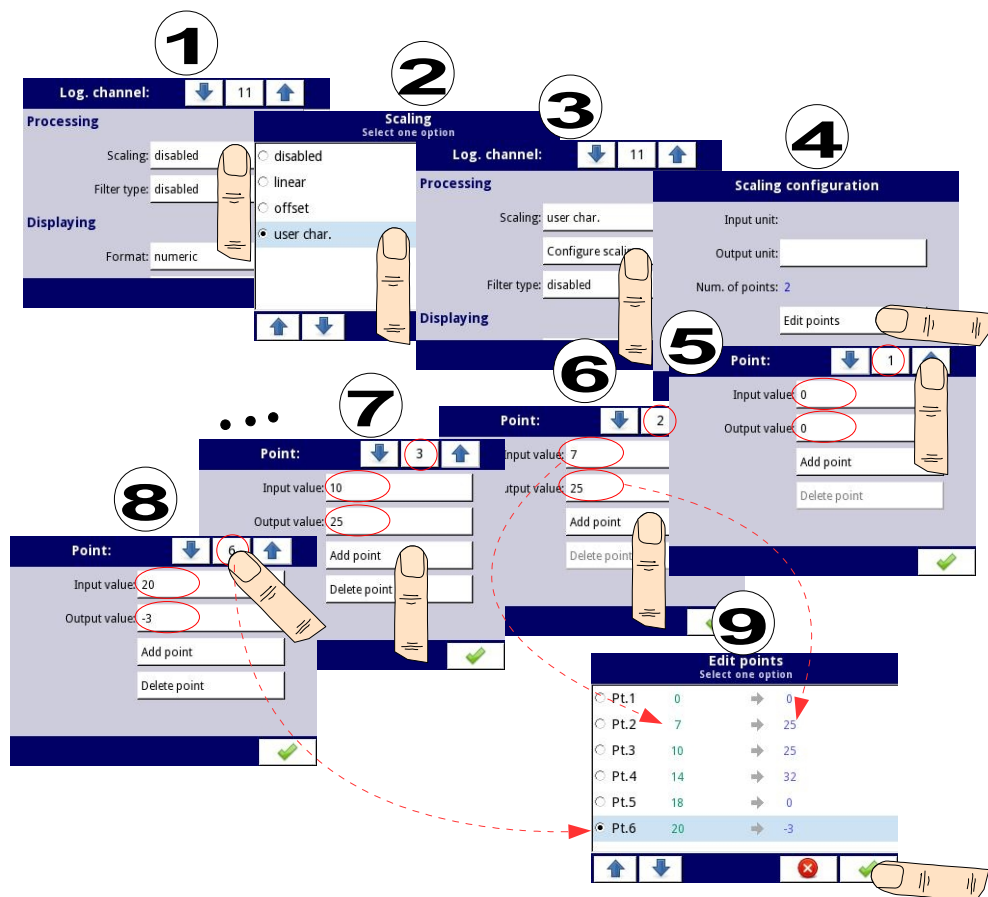

Fig. 7.32. Configuring the user characteristic
1. Press the button next to the **Scaling** label and select **user characteristic** option (point (1) and (2) in Fig. 7.32).
2. Press the **Configure scaling** button and enter the **Scaling configuration** menu (point (3) in Fig. 7.32).
4. Press the **Edit points** button (point (4) in Fig. 7.32) and go to **Edit points** menu.
For **Point 1** set input and output value (point (5) in Fig. 7.32).
5. Switch to **Point 2** by using the arrow keys and there also set the value of input and output (point (6) in Fig. 7.32).
8. At the end we check all the points defined by clicking the middle button between the arrows in the upper right corner of the screen (point (8) and (9) in Fig. 7.32).